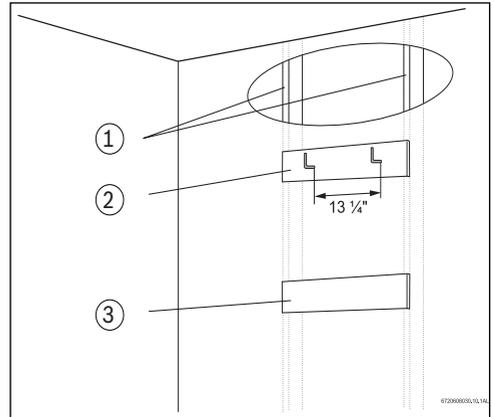

Fig. 7 Support board
pair of studs and then the heater should be attached to the support boards, see Fig. 7.
- ▶ Install the two included L shaped hooks to wall studs or support board 13 1/4" apart (See Fig. 7).